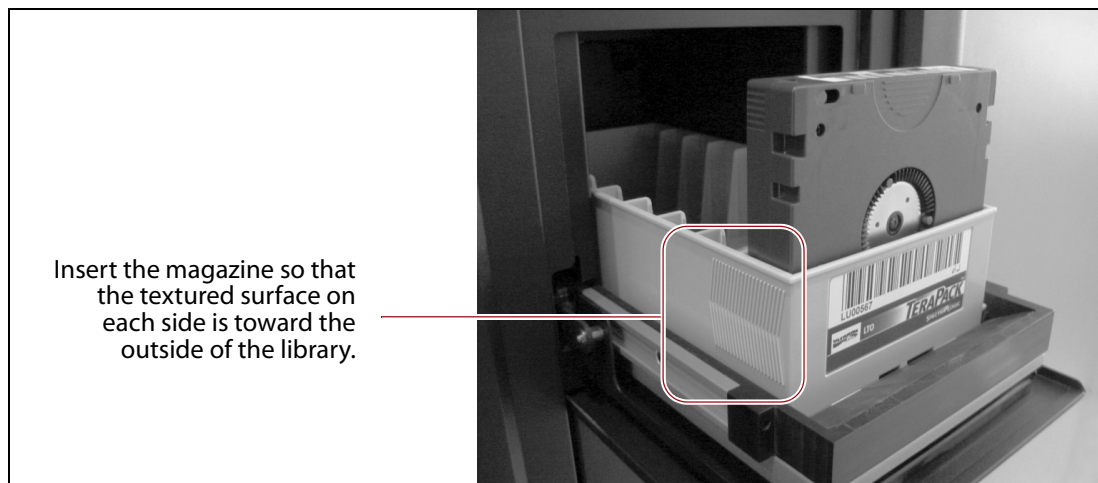

Figure 151 Insert a magazine into the TAP, making sure that it is correctly oriented.
- a. Insert a magazine into the tray on the open TAP, making sure that it is oriented with the textured surface on each side toward the outside of the library, as shown in Figure 151.